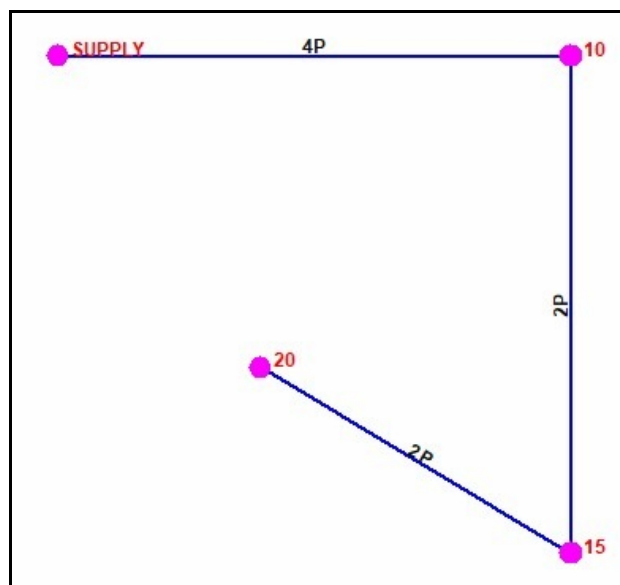

Figure 1
- For the *To Node Location*, move the mouse crosshairs to a location below **Node SUPPLY** and to the left of **Node 15** (similar to **Node 20** in Figure 1), and left-click the mouse to indicate the node's location.
After entering this pipe, the model should look similar to Figure 1.